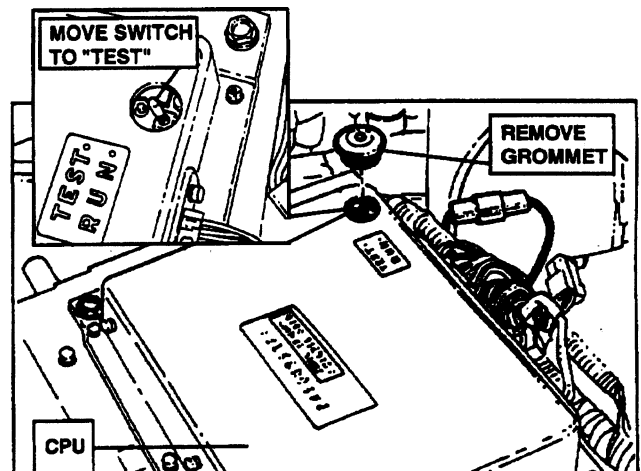

FIGURE 6.12A
7. Remove toggle switch grommet and carefully place the controller toggle switch in the "TEST" position. See Figure 6.12A.